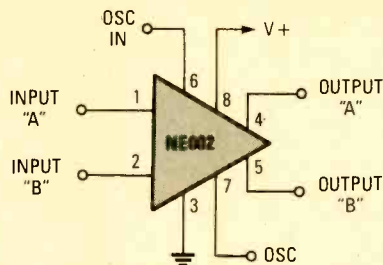

Fig. 3. The Signetics NE602 converter IC makes building a good mixing stage easy. It can provide you with RF gain and IF conversion in a single stage.
Better selectivity can be had with the circuit of Fig. 3. The antenna's radio-frequency coil (actually a transformer designed to operate at radio frequencies) has a tapped primary winding for tuning, while the secondary winding is tuned by a variable capacitor. The sec-
*Fig. 3. This is an improved crystal radio of vintage 1910-1920. The efficient, tuned antenna-coil circuit provided better sound performance with reasonable selectivity.*
The pinouts for the NE602 IC converter are shown in Fig. 3. There are two inputs that together form a balanced pair, along with two outputs. In some cases, both outputs are used but in others only a single output (pin 4) is used. Either an internal or external oscillator can be used with the NE602, and both versions will be presented here. In the circuits that we present here the supply voltage for the NE602 will be +5 to +9 volts DC.